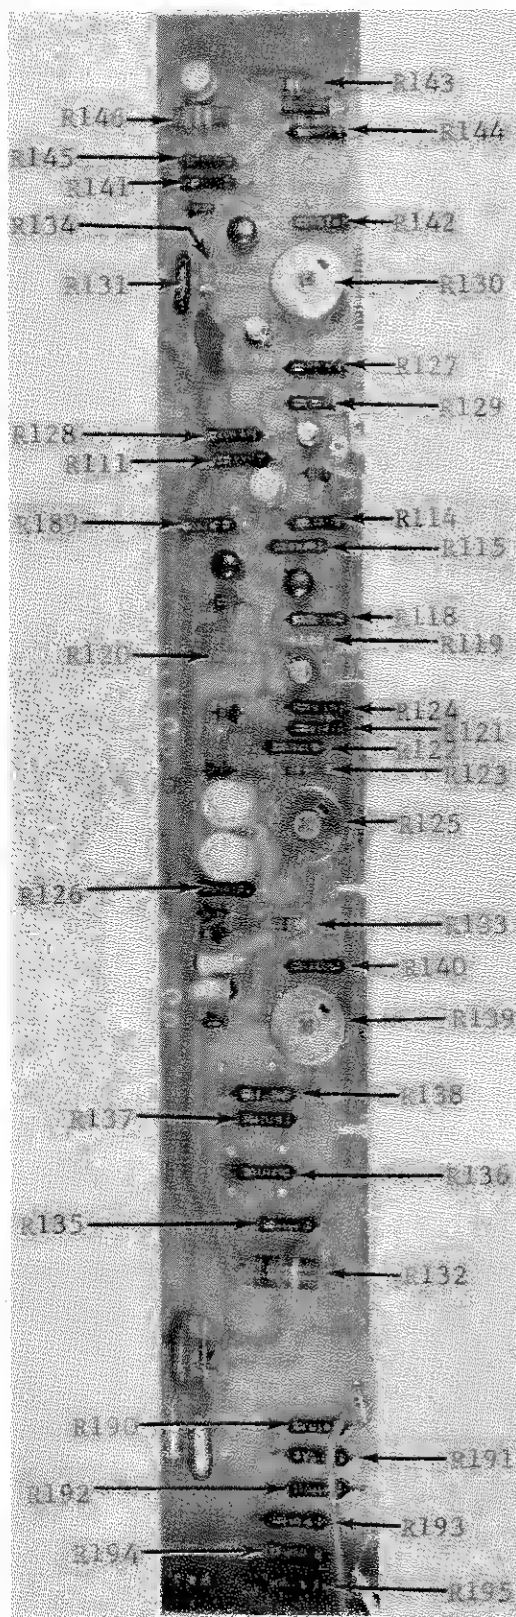

FIGURE 17. Resistor Locations on Front Section of PC-131.
Connect the Model 153 to the Model 246 OUTPUT Receptacle and set it initially to its 10-millivolt range. Adjust the ZERO potentiometer, R125 (Figure 17), for zero output ± 1 millivolt.
b. The Model 662 should read the Model 246 output to $\pm 0.5\%$. If necessary, adjust the output using the CAL potentiometer R139 (Figure 17). If the potentiometer does not have sufficient range, add or remove jumpers across resistors R136, R137 and R138 (see schematic diagram 21176E).
c. For a quick check, measure the output voltage at several different settings. Adjust the CAL potentiometer R139 (Figure 17) for minimum percentage deviation from the dial setting.
Adjust the CURRENT LIMIT potentiometer R130 (Figure 17) until the output current is 12.5 milliamperes ± 0.2 milliampere.